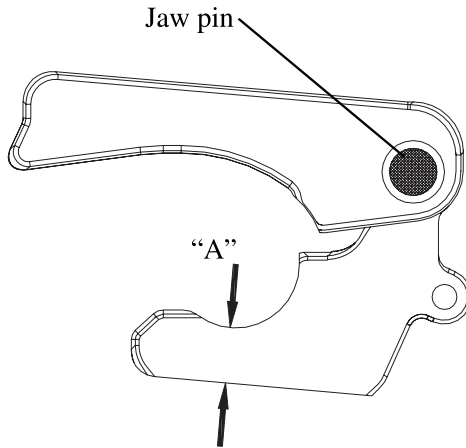

Figure 12 - Location of the Jaw pin
3. Check the fifth wheel for wear. If dimension "A" (see Figure 12) is less than 20.25mm a replacement jaw kit is required.
The jaw pin (see Figure 12) is only a pivot pin and is designed to be smaller than the hole in the jaw. This clearance enables the jaw to fully contact the kingpin and lockbar at all times.
If the jaw is undersized (dimension A in Figure 12) is less than 20.25mm) a new jaw kit is required.